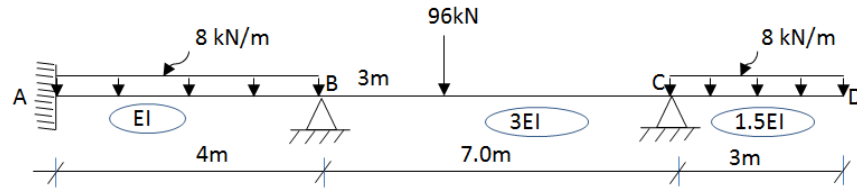

Fig. 2
- 4 Find all possible displacements at B and C and also find elemental forces for the beam loaded as shown in Fig. 2. **20**